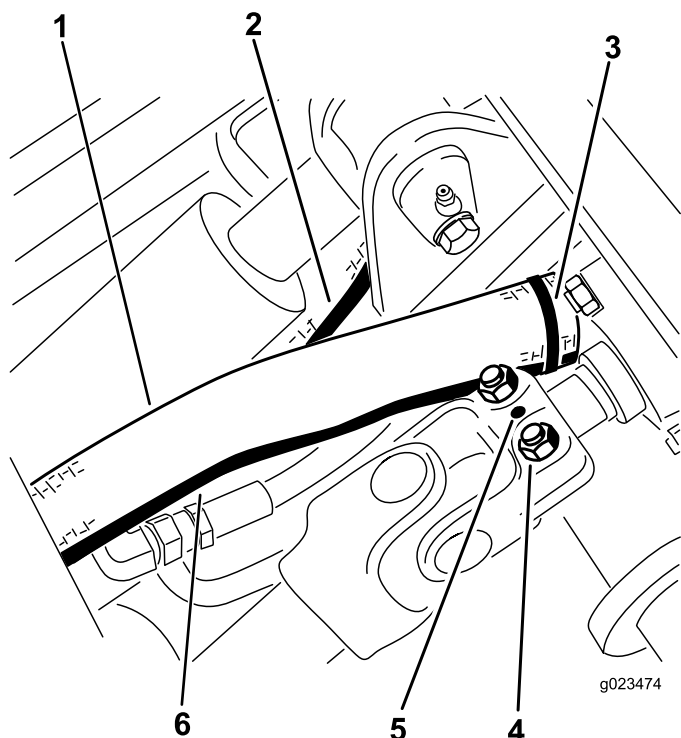

Figure 20
7. Install the roll pin (Figure 20).